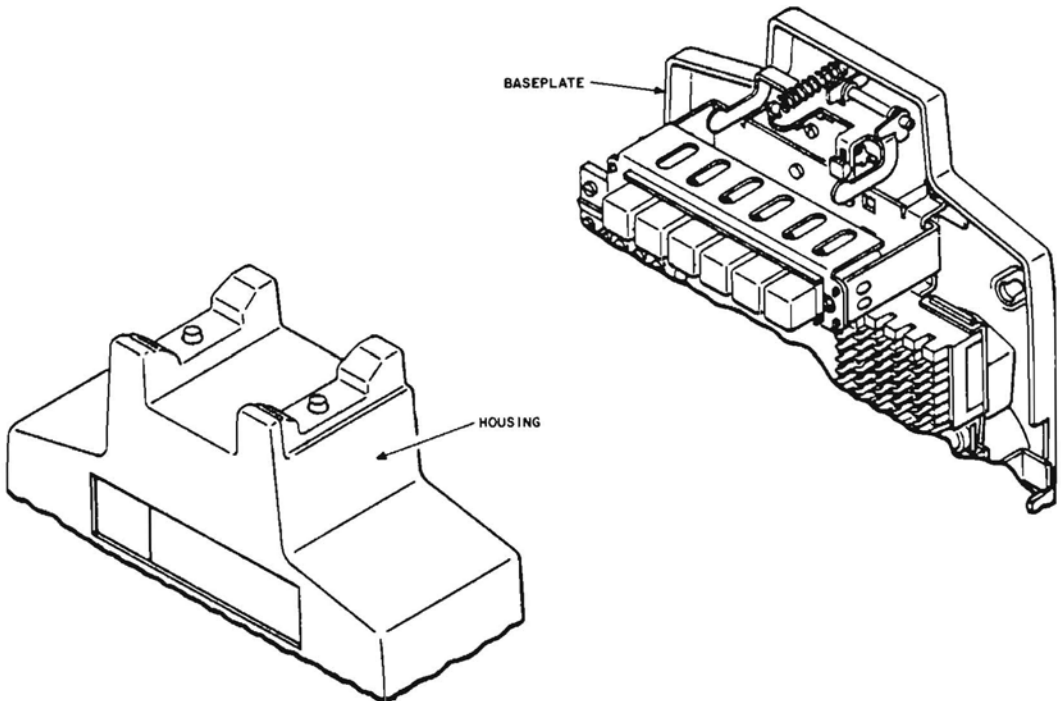
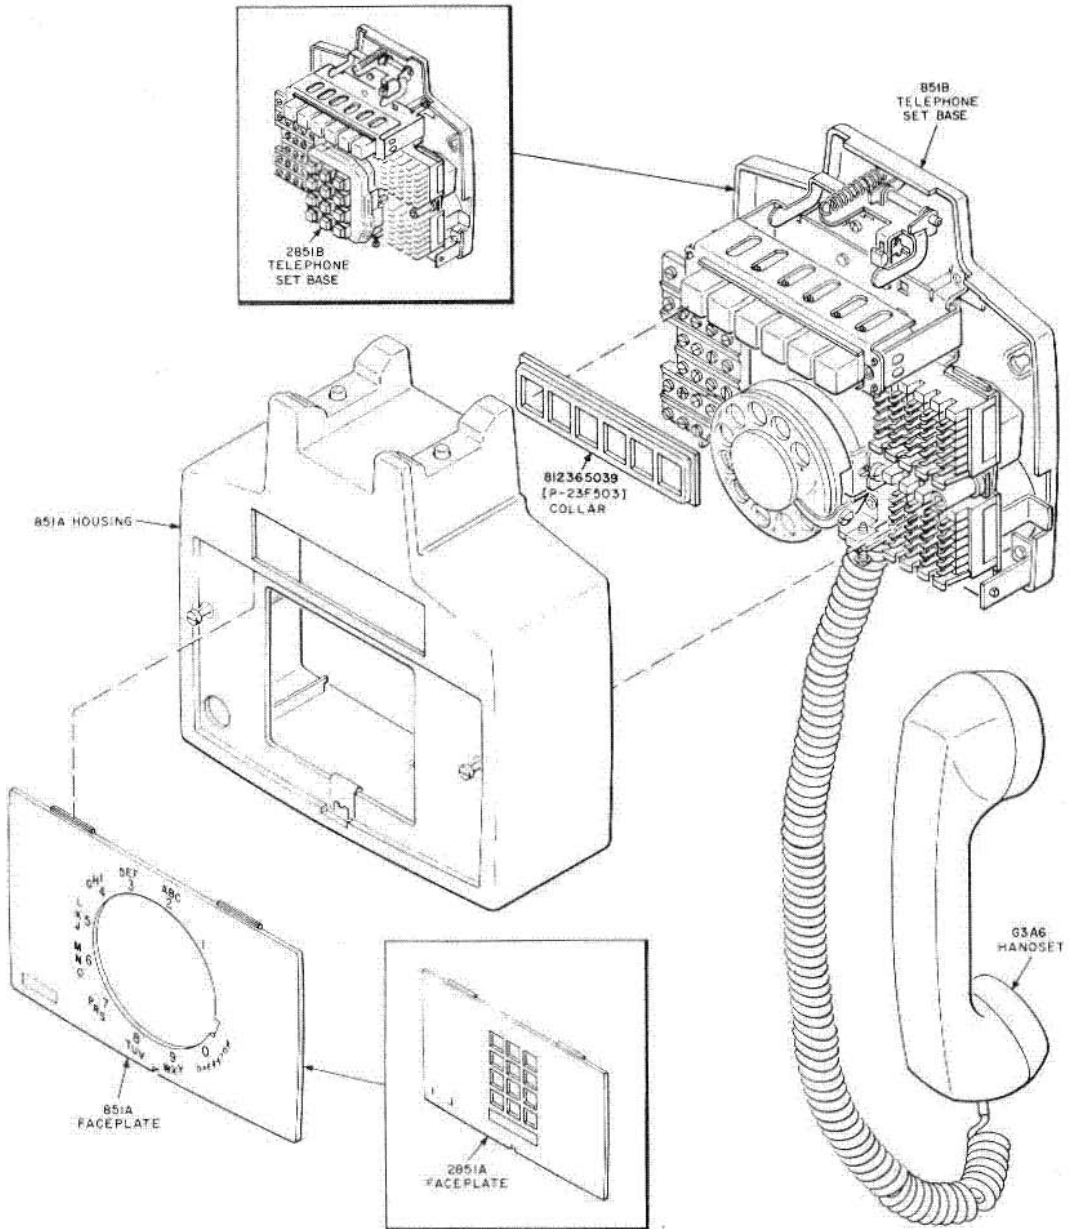

Fig. 17—Early Version Baseplate and Housing
Fig. 18—851B and 2851B Telephone Set, Early Version, Showing 851A Housing and Base Plate
**5.05** For field replacement of 851A housing—early version of housing (Fig. 17) can be used with sets equipped with either the early, later, or current baseplate (Fig. 18, 19, and 20). The current housing (Fig. 18 and 19) can not be used with the early version baseplate.